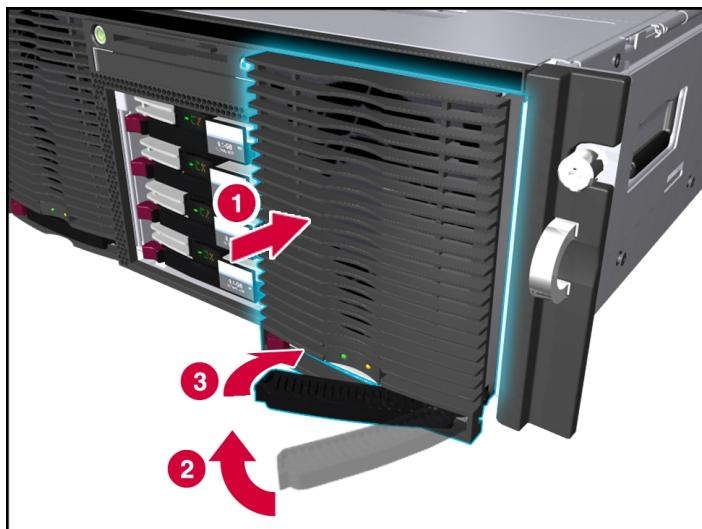

Figure 5-16: Securing the hot-plug power supply
4. Slide the hot-plug power supply into the power supply cage until the supply is seated securely (1). This action automatically pushes the spring-loaded trap door open.
5. With the power supply handle engaged at half closed (2), as shown in Figure 5-16, rotate the handle inward to lock the power supply into place (3). The power supply fan starts immediately if the system is running.